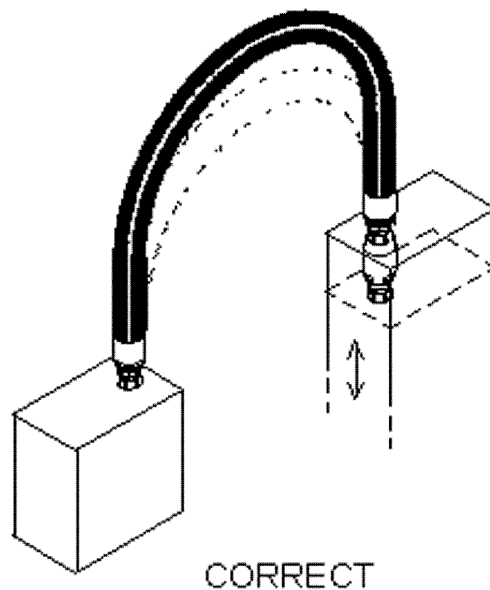

FIGURE 7A—BEND IN ONLY ONE PLANE TO AVOID TWISTING
5.24 **Hose Movement and Bending**—Hose allows relative motion between system components. Analyze this motion when designing hose systems. The number of cycles per day may significantly affect hose life. Also avoid multiple planes of motion and twisting motion. Consider the motion of the hose when selecting hose and predicting service life. In applications that require hose to move or bend, refer to Figures 7A, 7B, and 8; and use these practices: